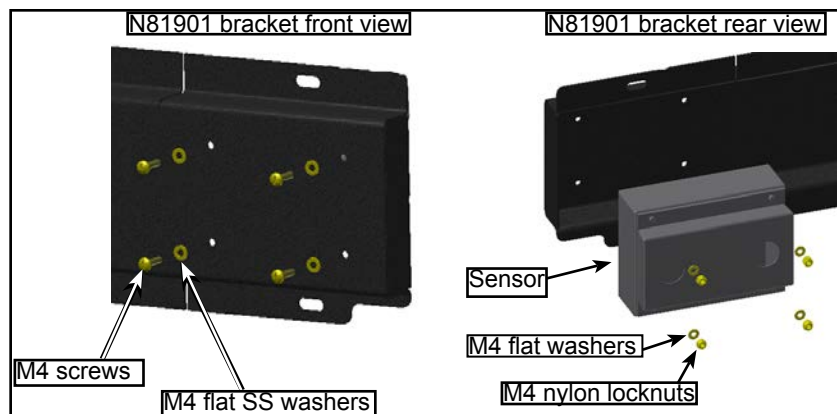

Figure 2 - Sensor Installation on the N81901 Bracket with Retained Hardware
- 1.6. Install the sensor on the N81901 bracket. The nuts must be installed inside the sensor housing. See Figure 2. Use the retained hardware.